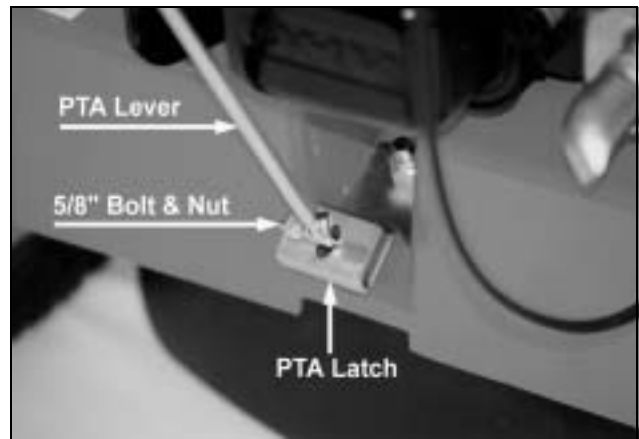

Figure 12
2. Align the flat end of the PTA™ lever with the corresponding hole in the PTA™ latch installed at the center rear of the frame (Figure 12).